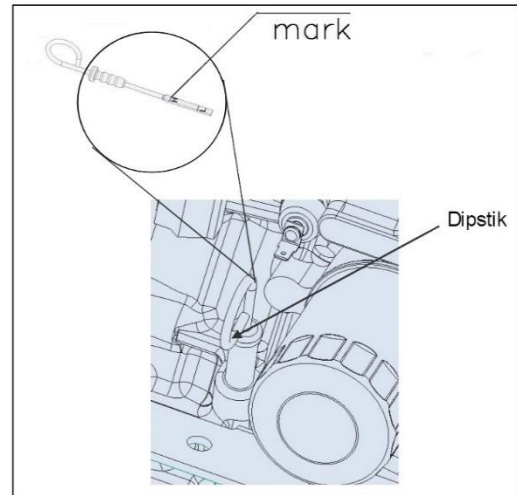

Fig.5-3 Engine oil Dipstick (LH.S OF Engine)
5.22 OPERATION 1; ENGINE OIL LEVEL FIG.5-3